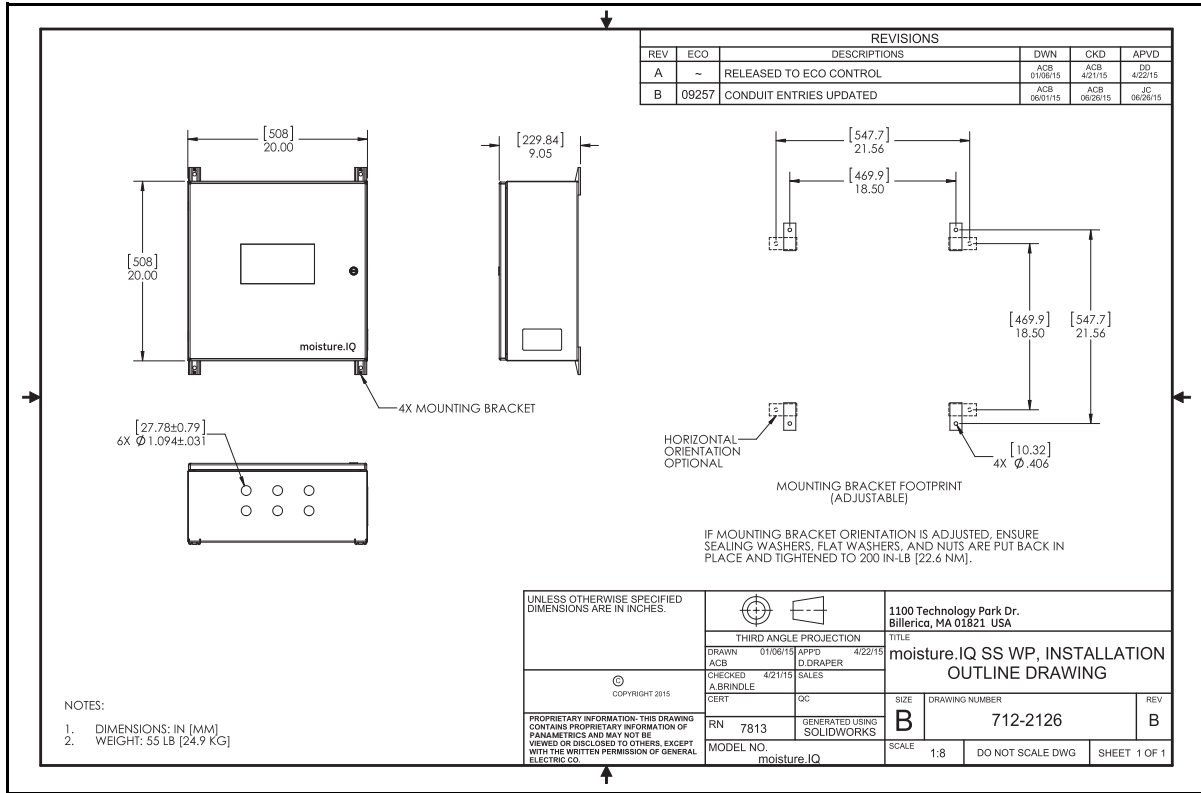
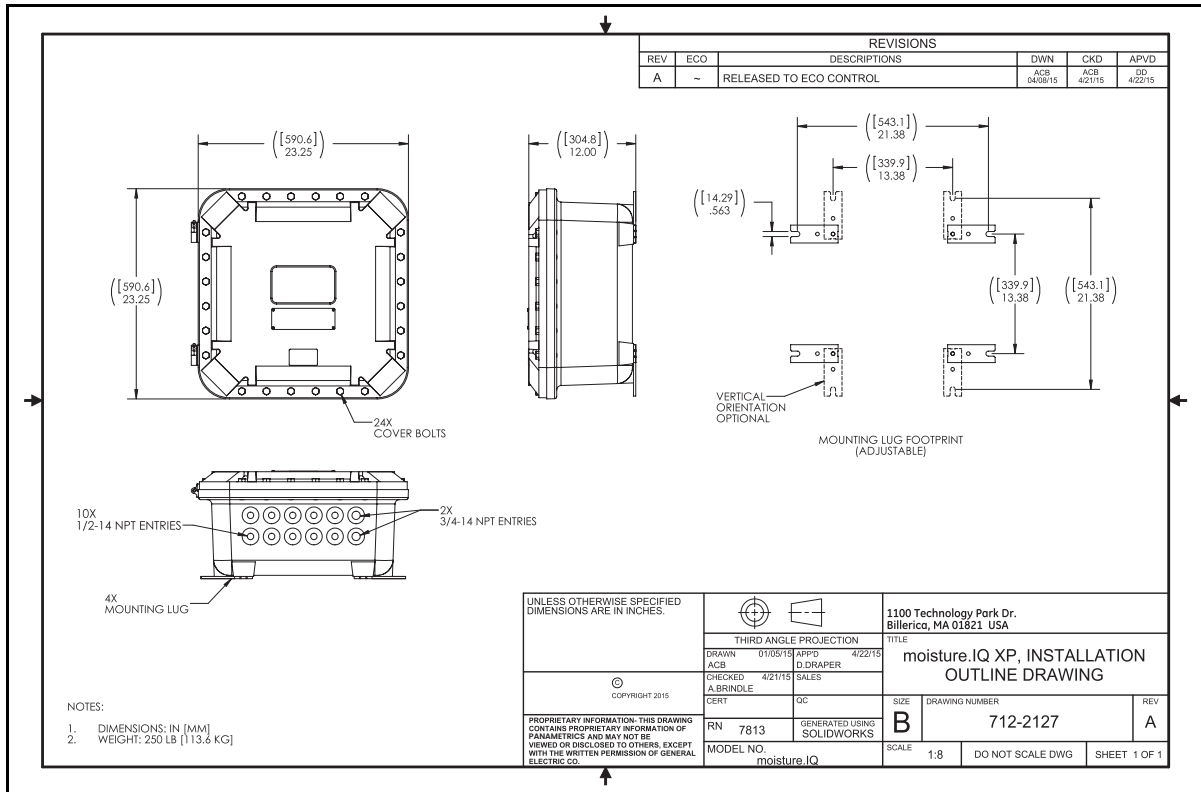

Figure 10: SS WP Installation Outline Drawing (Dwg. 712-2126_revB, SH 1 of 1)
Figure 11: XP Installation Outline Drawing (Dwg. 712-2127_revA, SH 1 of 1)
- The installation should comply with **installation drawings** 712-2126 stainless steel weather-proof version (see *Figure 10(B)* on page 6) and 712-2127 explosion-proof version (see *Figure 11(B)* on page 6).